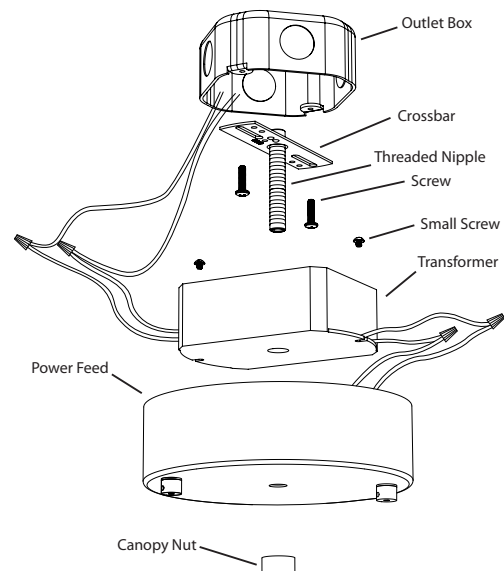

Fig. 2
Deep Power Feed Installation (Fig. 2):
8. Flip **Wing Tabs** inward so that the Minibox will fit into the drywall opening (Fig. 2).
11. Flip **Wing Tabs** inward so that the Minibox will fit into the drywall opening (Fig. 2).
12. Slide **O-rings** along **Mounting Screws** so that they are flush against the **Wing Tabs** (Fig. 2).